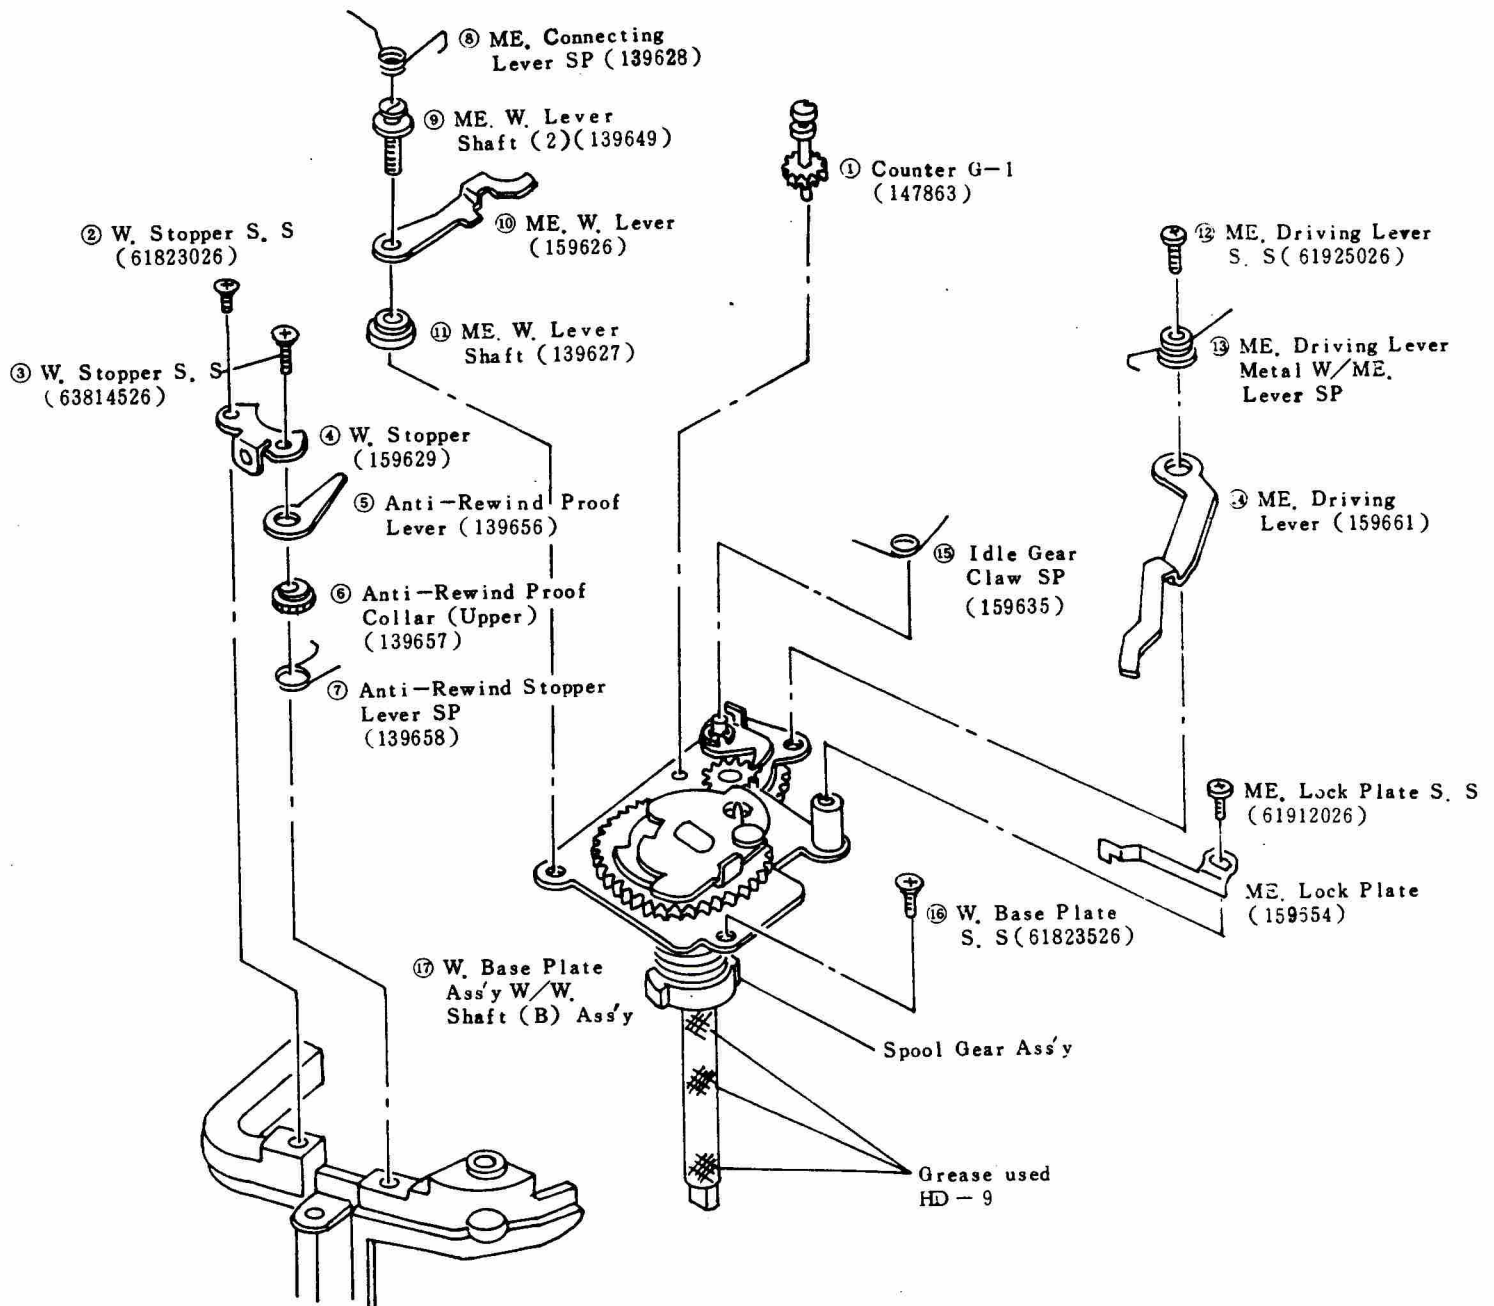

Fig 27
c) Remove the respective parts ① ~ ⑰ shown in (Fig 27) in numerical order.